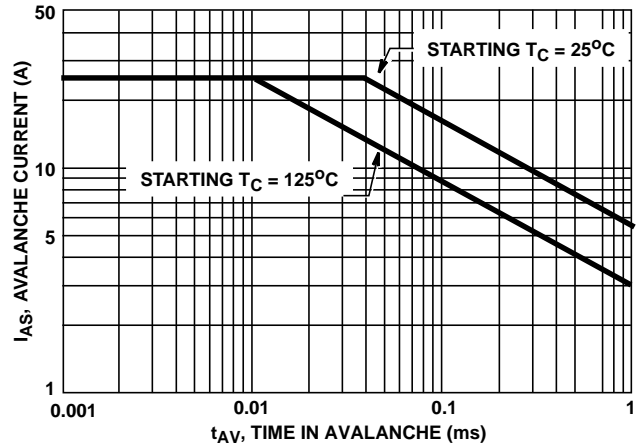

FIGURE 2. UNCLAMPED INDUCTIVE-SWITCHING
3.  $V_{DD} = 25\text{V}$ , Start  $T_J = 25^{\circ}\text{C}$ ,  $L = 1.5\text{mH}$ ,  $R_{GS} = 50\Omega$ ,  $R = 0$ . See Figures 2, 12, and 13.